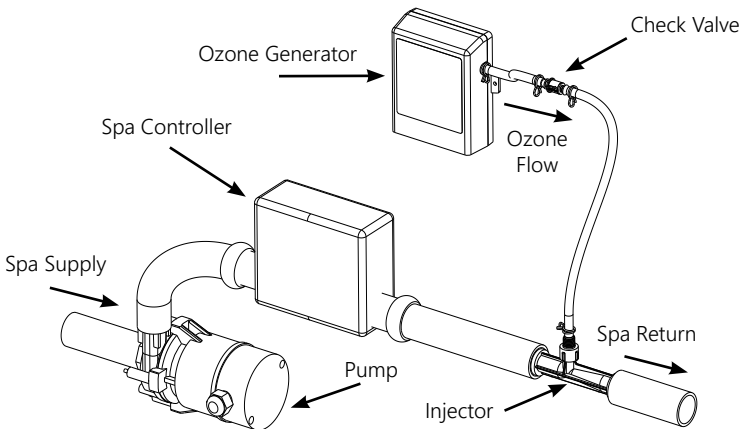

Figure 1: Typical Injection System Arrangement
6. Plumbing – Vacuum System (*refer to Figure 1*)
- a. Most spas are factory equipped with an ozone injector, like the one shown in Fig. 1. Review your Spa's Installation Manual to identify the correct ozone connection location.
7. Plumbing – Ozone Generator (refer to Figure 1)